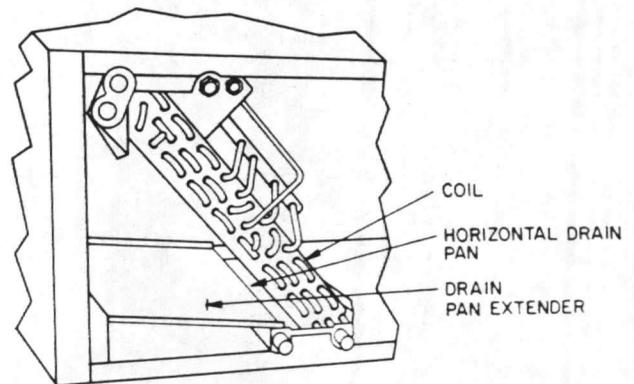

Fig. 4 — Installing Drain Pan Extender, Horizontal Position (024, 030, 036 sizes only)
1. A drain pan extender is taped under the coil unit (exc. on 018 size). For vertical upflow or downflow applications, remove and discard pan. For horizontal application, drain pan extender must be repositioned (024, 030, 036 sizes only) as described in Step 2, horizontal airflow position. See Fig. 4.
5. For horizontal application, install drain pan extender. See Fig. 4.
A drain pan extender is taped beneath coil (exc. on 018 size). Remove pan and reposition as shown in Fig. 4. Drain pan extender is *not* provided with 018 coil size. For 024,030,036 sizes only in horizontal position, insert 3/8-in. flange into standard horizontal drain pan being careful to avoid damaging coil fins. Check to ensure pan is installed straight and in proper position.